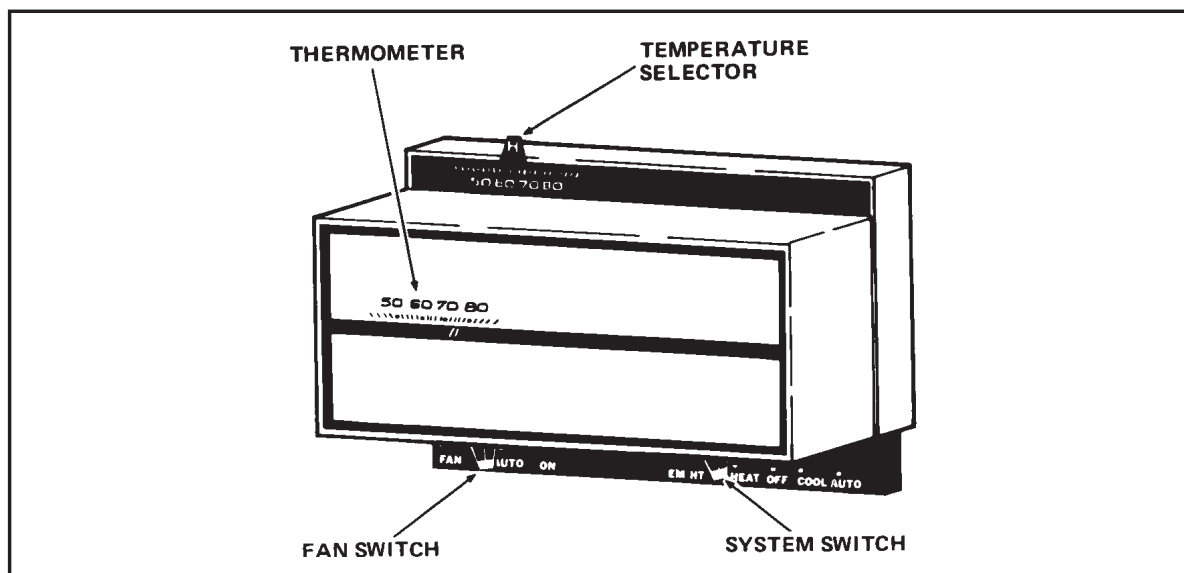

Figure 1. Typical Thermostat
1. Set the thermostat system switch to COOL and the thermostat fan switch to AUTO. (See Figure 1)
1. Set the thermostat system switch to HEAT and the thermostat fan switch to AUTO. (See Figure 1)
1. Set the thermostat system switch to AUTO and the thermostat fan switch to AUTO. (See **Figure 1**)
Set the thermostat system switch to OFF and the thermostat fan switch to AUTO. (See **Figure 1**) The system will not operate, regardless of the thermostat temperature selector(s) setting.
Set the thermostat fan switch to ON (See **Figure 1**). The indoor blower will start and will run continually until the fan switch is reset to AUTO.